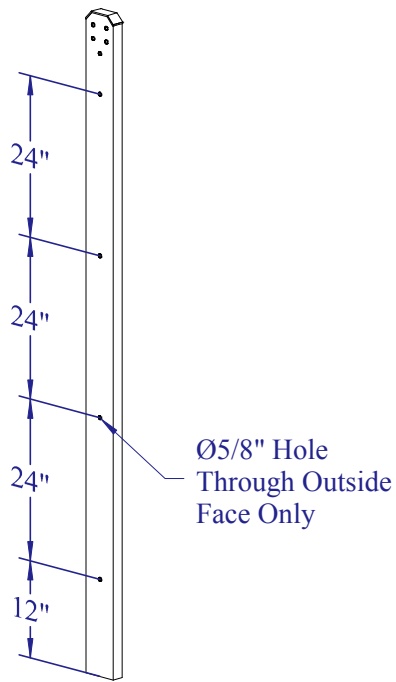

Fig. SP-1
- Drill 5/8" holes through the front face of the side plate according to the dimensions shown in Fig. SP-1.